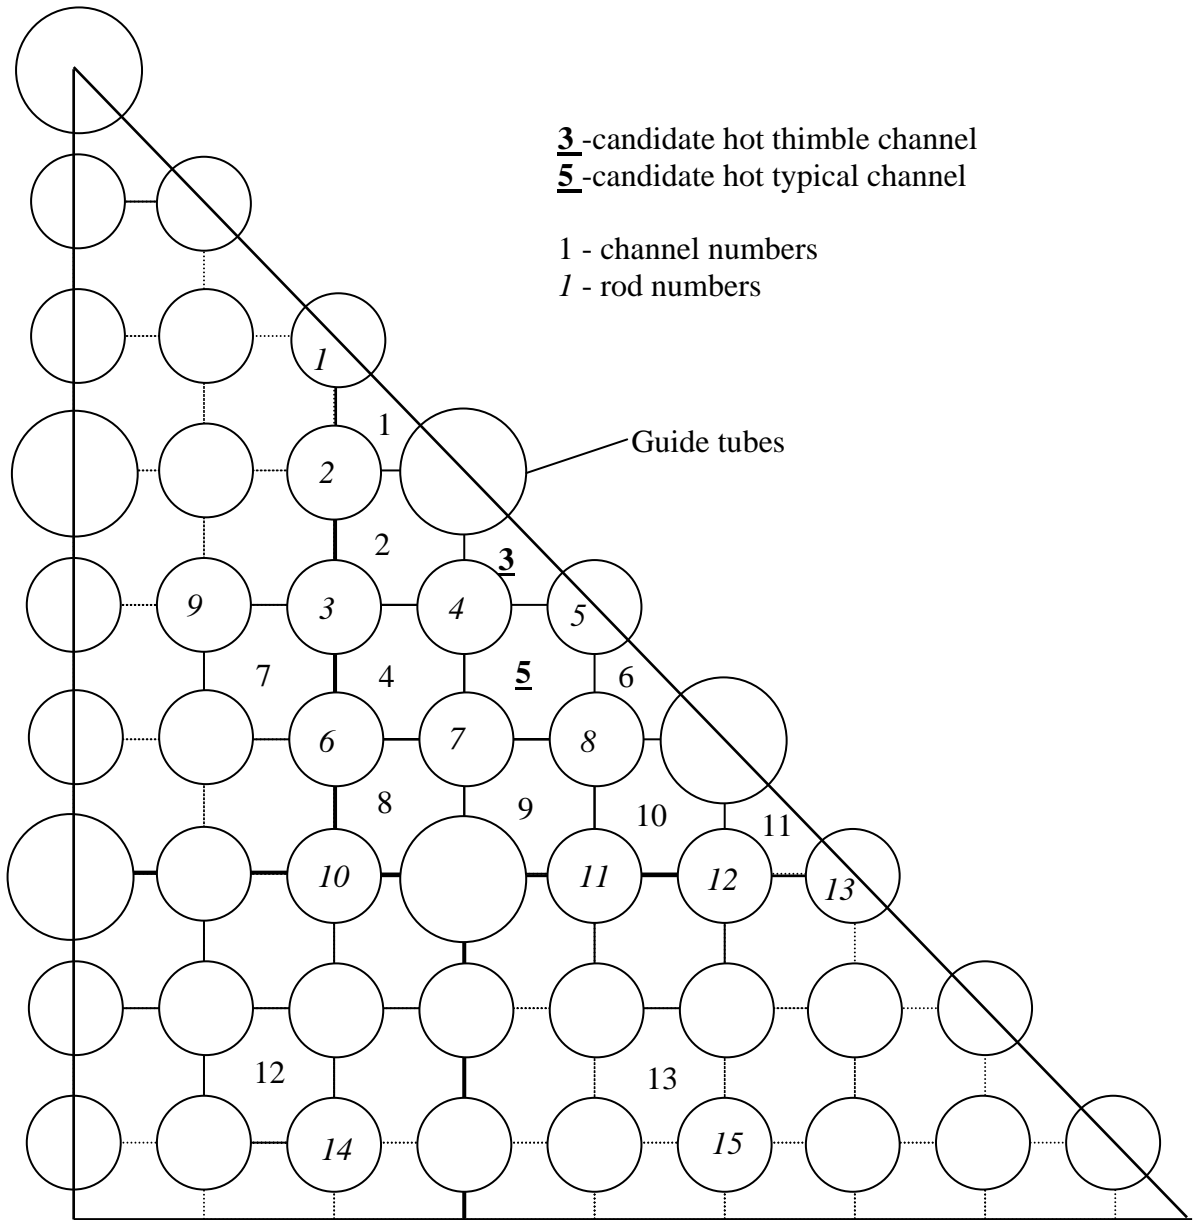

Figure 3 Channel and rod numbering scheme for 1/8th model of the hot fuel assembly
2. VIPRE model. The VIPRE input file for the above core configuration has been prepared and is available at 22.251 mightyalpha account – see section 4 (instructions to run VIPRE). To help you to get oriented in the input file, the channel and rod numbering scheme used to generate VIPRE geometry cards is shown in Figures 3 and 4.